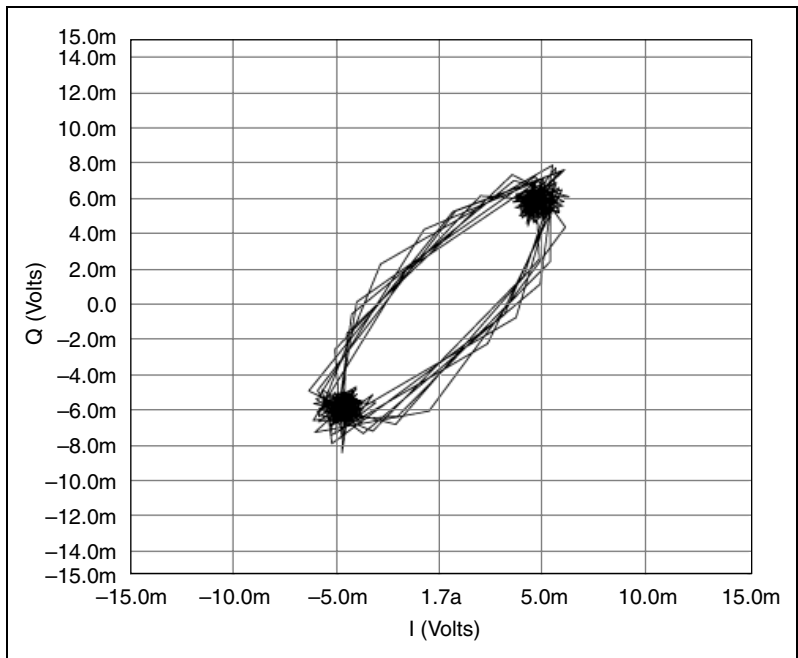

Figure 4. IQ Plot
You can use the SMT Cont Zoom FFT VI to perform the continuous zoom FFT technique. This VI is located on the **Zoom FFT** palette, which is a subpalette of the **SMT Advanced** palette. This VI also passes the complex modulated and filtered time-domain data corresponding to the spectrum. Figure 4 shows the in-phase (I) and quadrature-phase (Q) components of this complex time-domain data plotted on an I versus Q plot. The input signal is a phase-modulation (PM) wave. The PM signal is modulated with a square wave, with a carrier at 70 MHz. The RF signal analyzer is tuned to the carrier frequency.